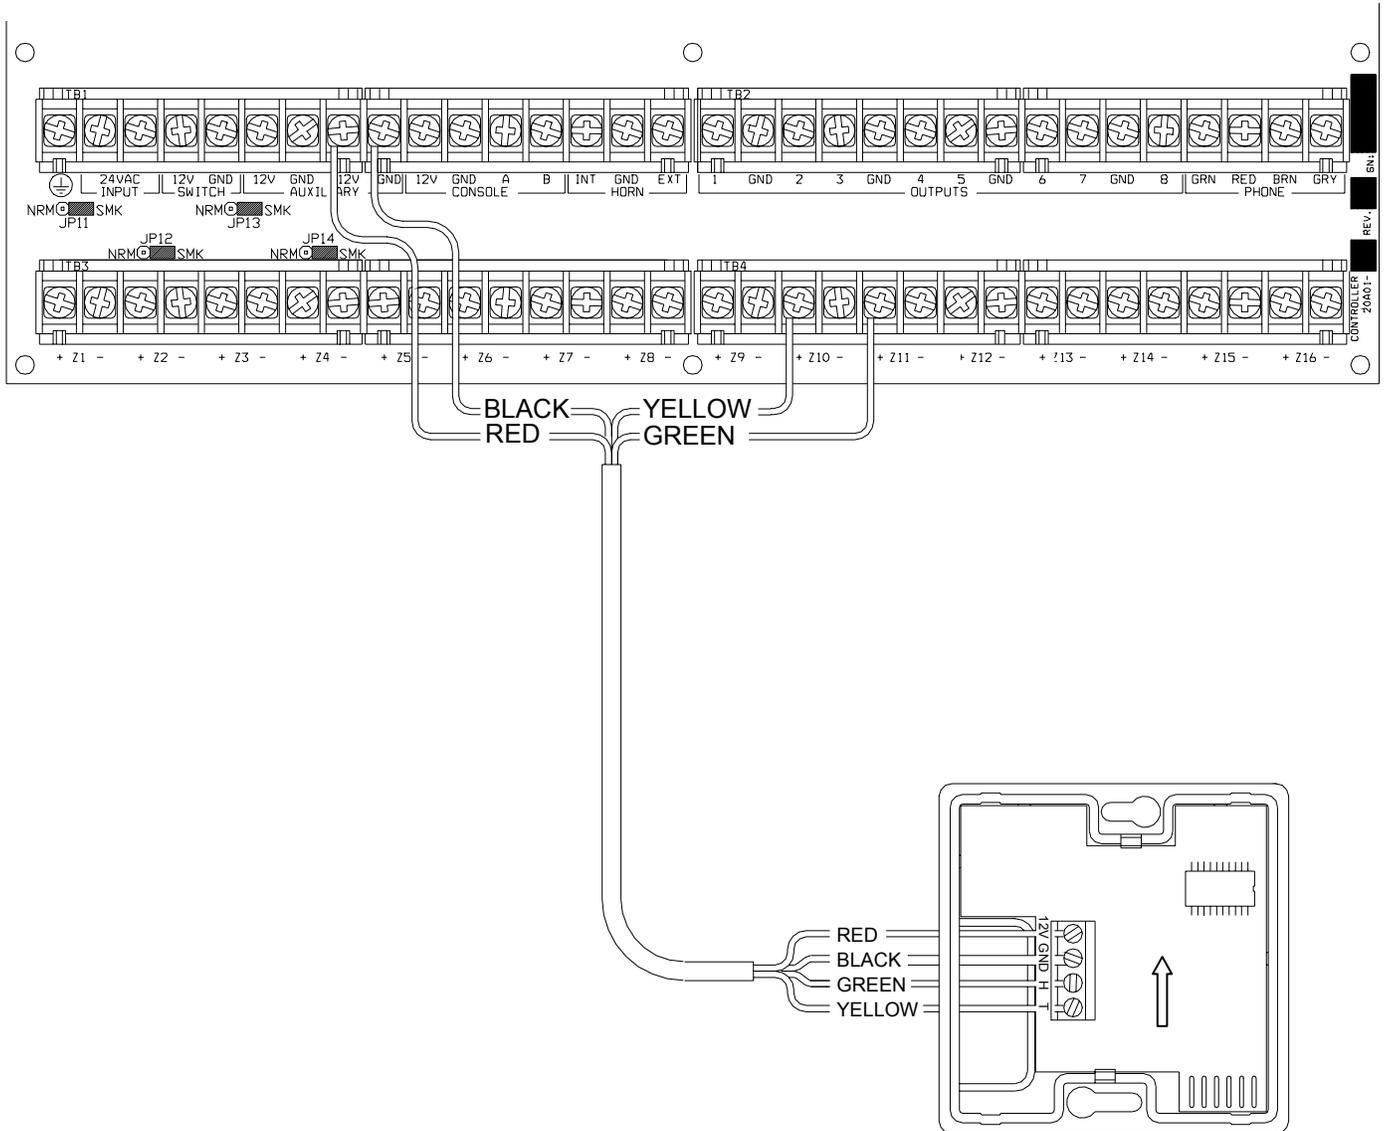

FIGURE 1 – MODEL 31A00-8 CONNECTIONS
2. Mount the Model 31A00-8 using the supplied wall anchors and screws. For optimal temperature and humidity readings, mount it vertically so that the white arrow (silk-screened onto the board) points upward as shown in FIGURE 1. The plastic enclosure must be mounted so that the airflow slots are at the top and bottom. Connect to controller as shown in FIGURE 1.
3. Program the zone type for the temperature output (T) as an "Extended Range" device: ER Outdoor Temperature (Type 85), ER Temperature (Type 86), or Temperature Alarm (Type 87) based on the application.
4. Program the zone type for the humidity output (H) as Humidity (Type 84).